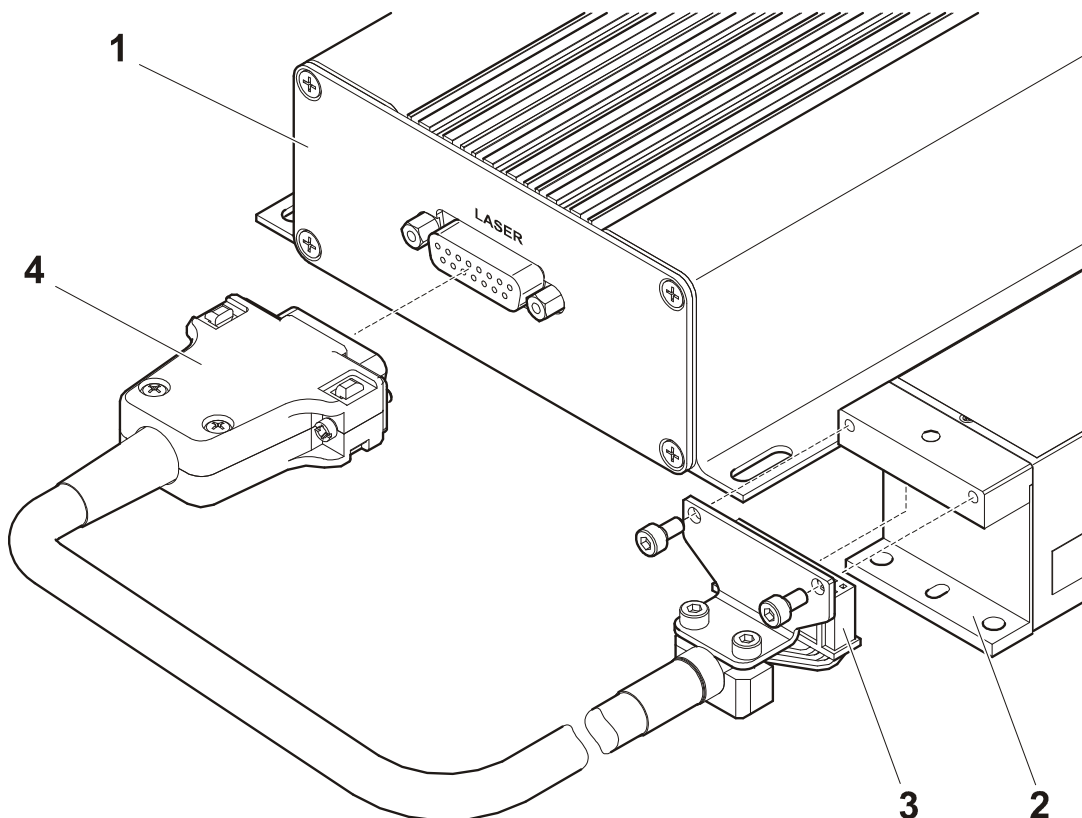

Fig. 8 Connecting the laser module
- Connect the connecting cable with its 24-pin female connector (Fig. 8/3) to the male connector on the laser module (Fig. 8/2).
- Connect the other end of the connecting cable with its 15-pin SUB-D male connector (Fig. 8/4) to the Sub-D female connector **LASER** of the control unit (Fig. 8/1).